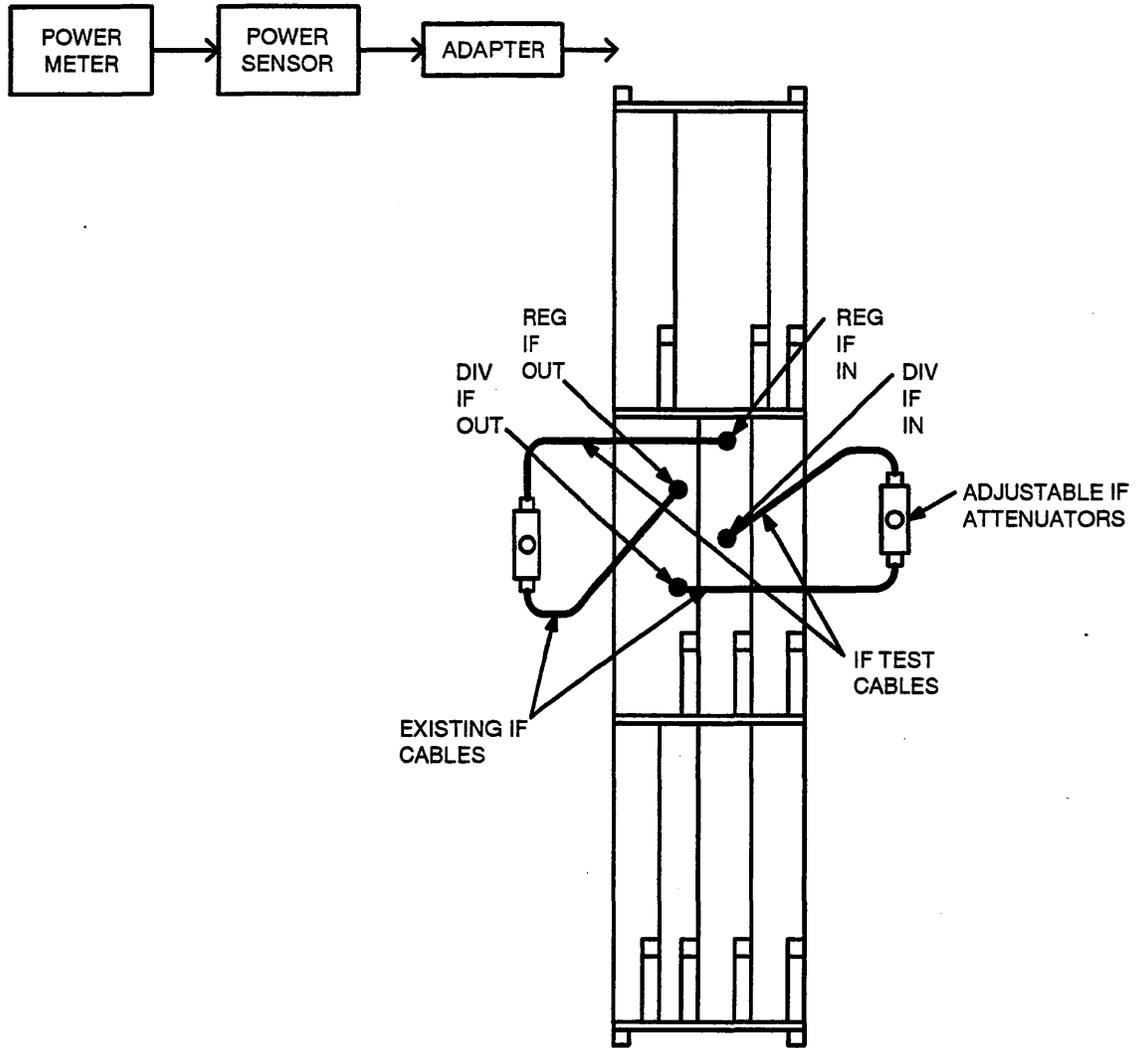

Figure 19-IF COMBINER Performance Test Setup
- Refer to Figure 19.
2. Establish test connections per Figure 19; ensure both paths are virtually equal.
6. Reconnect both the IF IN cables (with test cables and attenuators attached) to the associated IF IN jacks on the IF COMBINER unit (Figure 19).